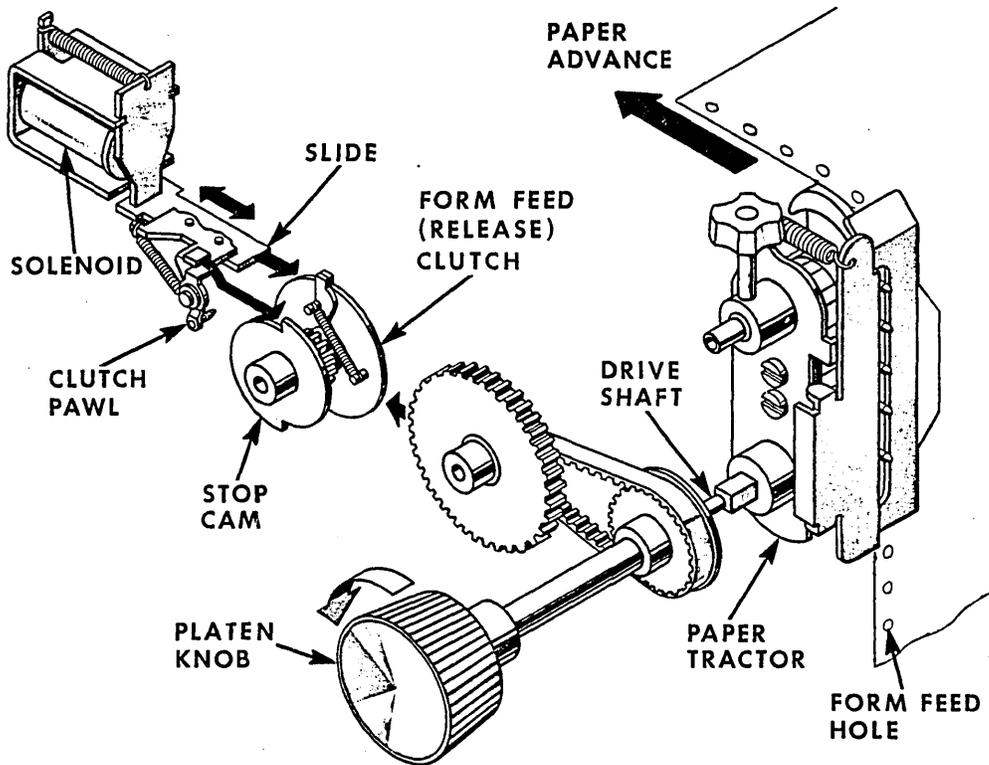

Figure 1-5. PAPER MOVEMENT MECHANISM
1.3.2 PAPER MOVEMENT (Figure 1-5)
A small independent motor not shown in Figure 1-5, provides the power necessary to move the sprocket-feed tractors which control paper movement. To move the paper, the printer electronics activates a line feed solenoid which activates a clutch that mechanically links the motor to the sprocket-feed tractors.